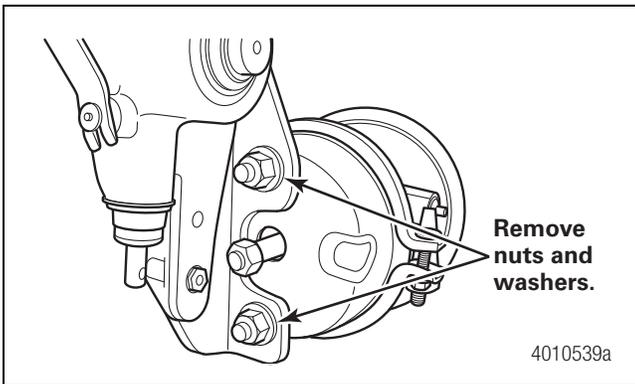

Figure 18
6. Use the correct wrench to remove the air chamber nuts and washers. Figure 18.